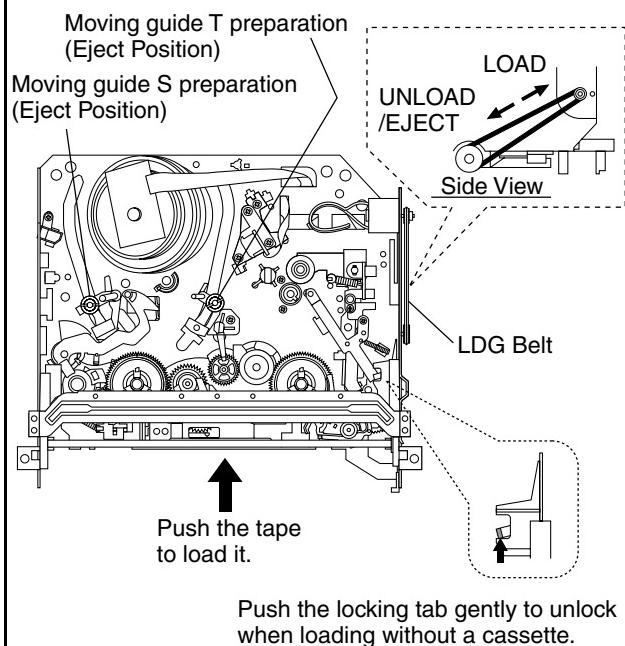

Fig. M1
4. Turn the LDG Belt in the appropriate direction shown in Fig. M1 for a minute or two to complete this task.
4. Turn the LDG Belt in the appropriate direction shown in Fig. M1 until the Moving guide preparations come to the Eject Position. Stop turning when the preparations begin clicking or can not be moved further. However, the tape will be left wound around the cylinder.
3. Turn the LDG Belt in the appropriate direction shown in Fig. M1. Release the locking tabs shown in Fig. M1 and continue turning the LDG Belt until the Cassette Holder comes to the tape-loaded position. Allow a minute or two to complete this task.